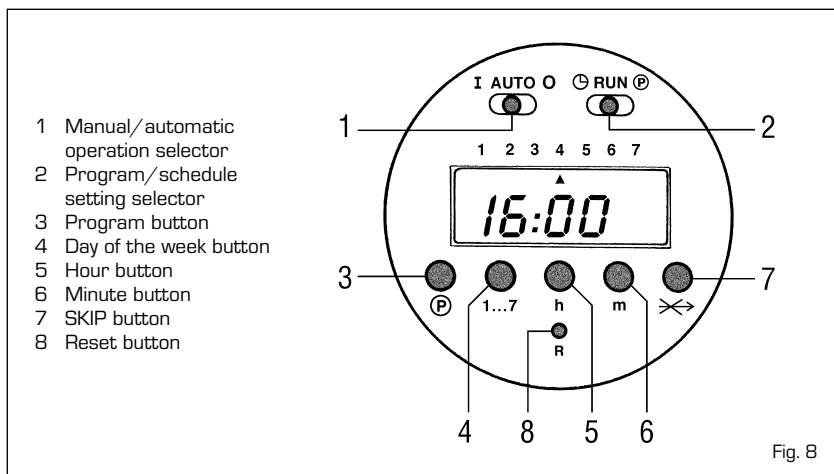

Fig. 8
- Deleting one or more programs (fig. 8)
- Setting the SKIP function (fig. 8)